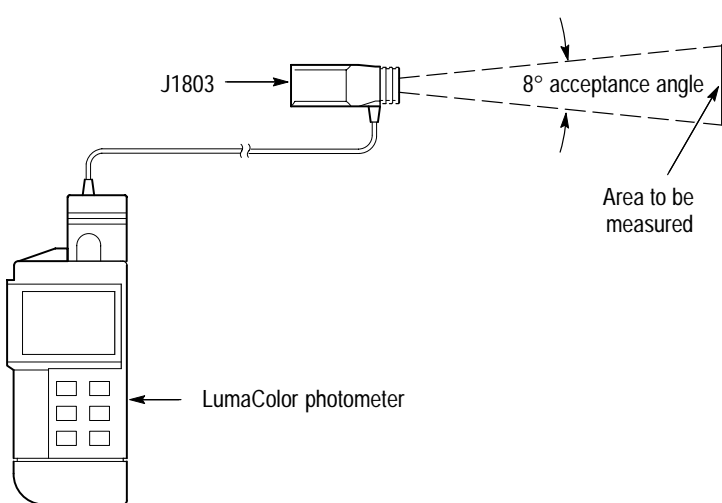

Figure 1–3: J1803 setup for luminance measurement of an illuminated surface
3. Point the J1803 at the surface to be measured, at the desired distance from the surface. Refer to Figure 1–3.